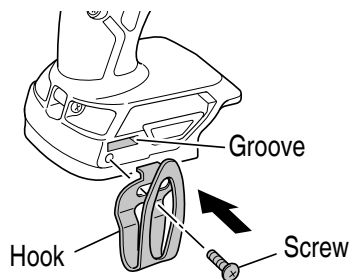

Fig. 12
- (1) Replacing the hook and tightening the screws. Install securely the hook in the groove of power tool and tighten the screws to fix the hook firmly. **(Fig. 12)**